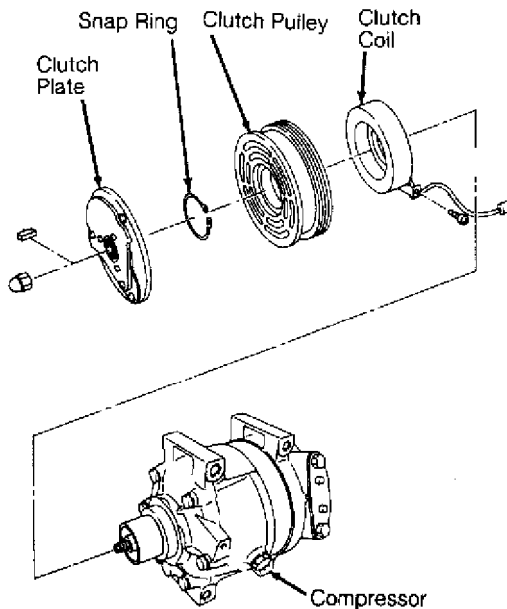

Fig. 3: Exploded View Of Compressor Clutch (Calsonic V5)
2) Remove snap ring. Use a universal gear puller to remove clutch pulley. See Fig. 3. Remove screw from clutch coil lead. Use puller to remove clutch coil.